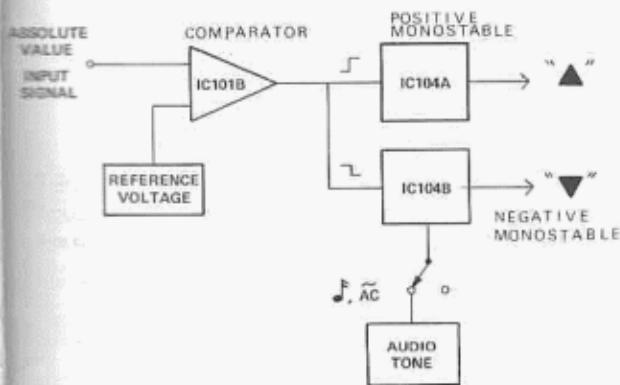

FIGURE 5-6. SIMPLIFIED BLOCK DIAGRAM OF PULSE AND CONTINUITY DETECTOR
5.3.6 A simplified block diagram of the pulse and continuity detector is shown in Figure 5-6. The absolute-value input signal is compared with a reference voltage at IC101B comparator. Integrated circuits IC104A and IC104B are edge-triggered monostable multivibrators. IC104A detects a positive - going pulse or "above reference" level and turns on the "▲" symbol and holds for 100 milliseconds. Conversely, IC104B detects a negative - going pulse or "below reference" level and turns on the "▼" symbol and holds for 100 milliseconds.